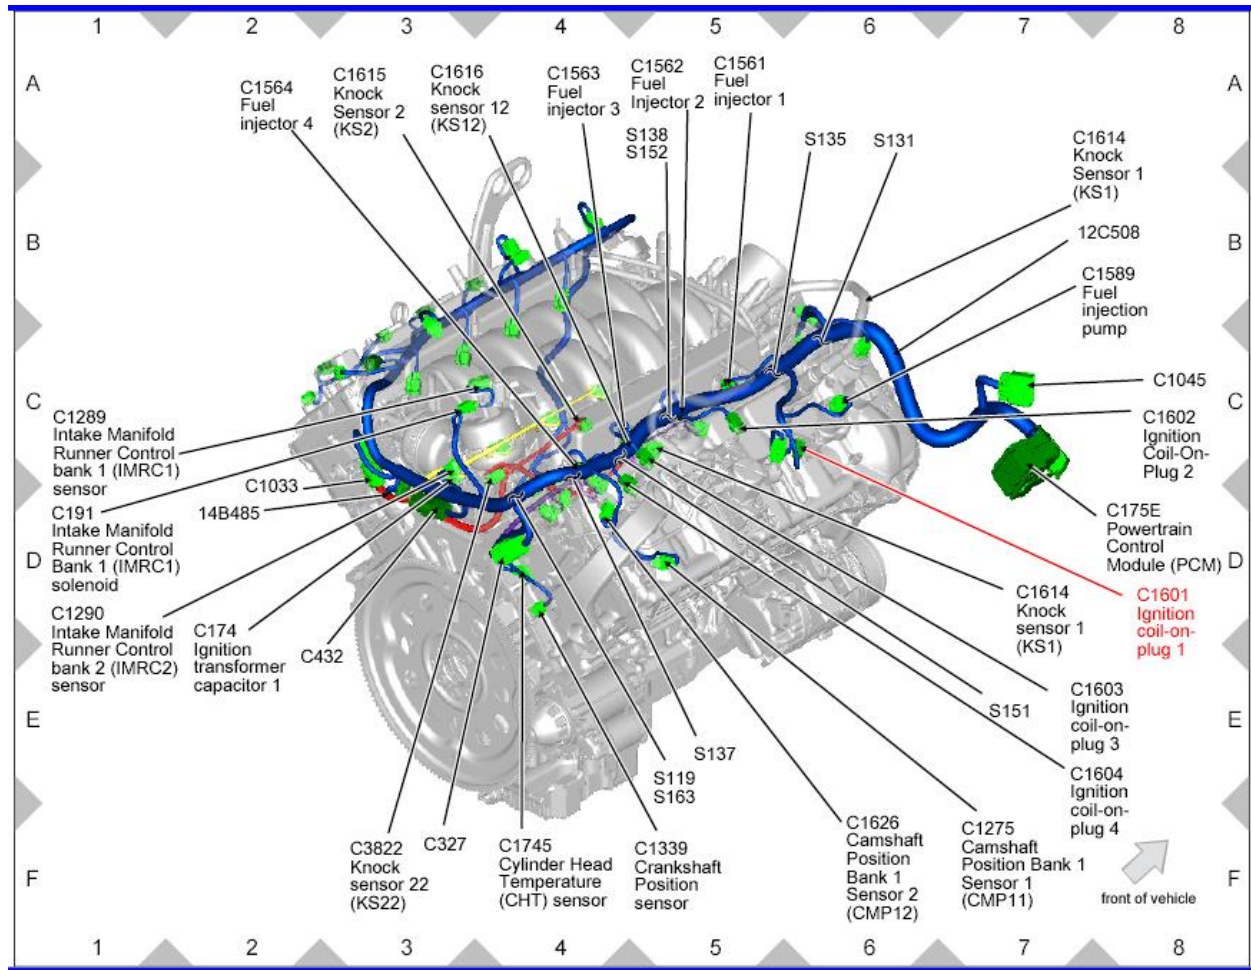

Figure2 – Rear View of Engine.
1. Identify proper mounting location for the PCM, Power Distribution Box (Item A) & Inline Fuse Holder. Locate the PCM connector (C175E) on the engine harness as indicated in Figures 2 and 3 by the "START HERE" arrow.